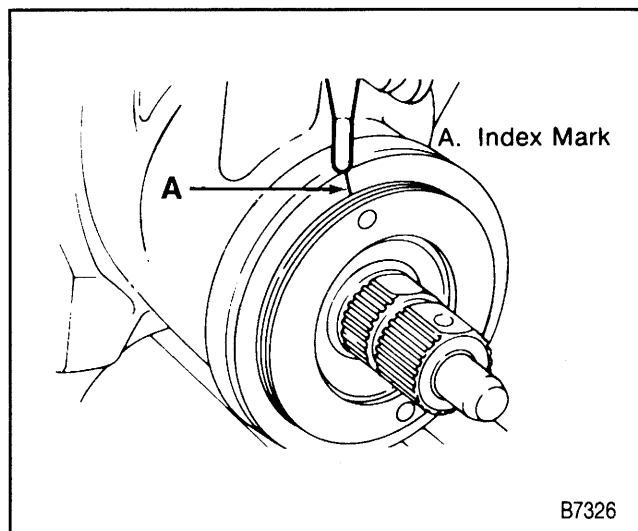

Figure 7—Alignment Marking the Adjuster Plug Hole with the Housing
3. Place an index mark on the housing even with one of the holes in the adjuster plug (figure 7).